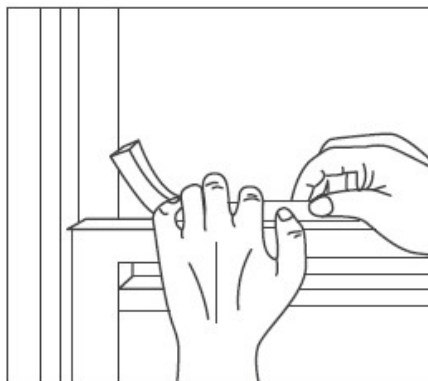

Fig.12
7. Cut foam seal and insert in the space between the upper and lower sashes (Fig.12).